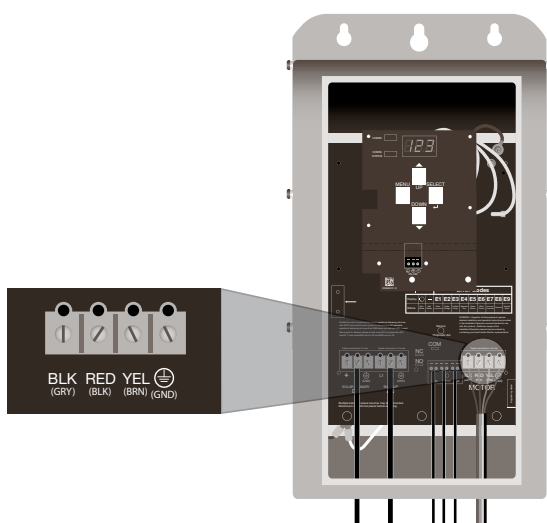

Figure 8: Motor Wiring Connection
1. Connect the cables from the Pump/Motor Assembly to the Terminal Block labeled “MOTOR” and marked BLK, RED, YEL, and GND (Figure 8) (Torque specification: 15 in-lbs/ 1.7 N-m).